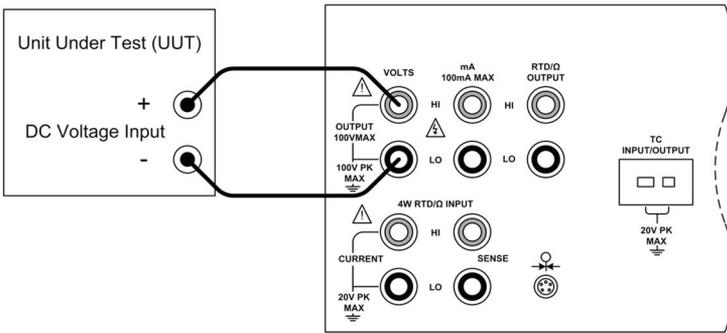

Figure 10 - DC Voltage Output Connection
- Connect the unit under test to the voltage output terminals of the PD9500 as shown in figure 10.